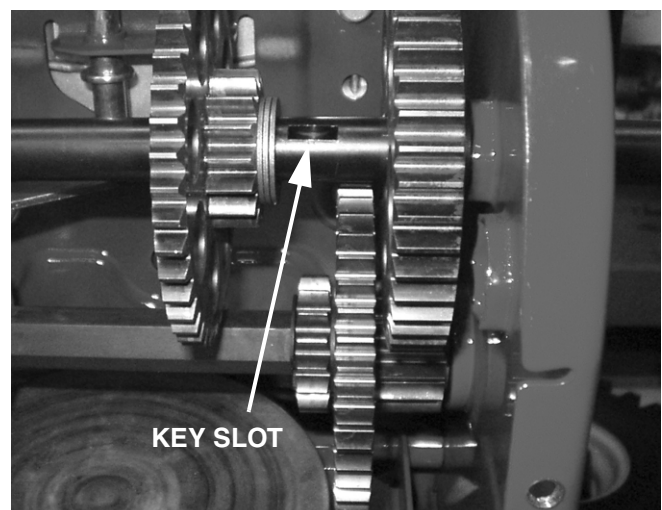

FIGURE 16
33. Slide the axle to the right through Gear, Item 10, and Flat Washer, Item 13, displacing the dowel until the key slot is visible as shown in Figure 16.
34. Ensure the 3 Flat Washers, Item 13 are next to the gear as shown in Figure 16. Insert Hi-Pro Key, Item 7, into key slot. Ensure key is inserted all the way in and top surface is parallel to axle.